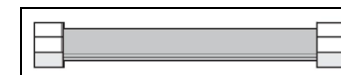

Figure 3
- If local codes permit, a new CSA design-certified, 4 to 5 ft (122 to 152.4 cm) long, 1/2" (1.3 cm) or 3/4" (1.9 cm) I.D., flexible metal appliance connector may be used for connecting range to the gas supply line. (See Figure 3)